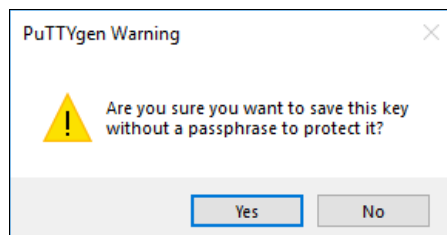

Figure B-3 Confirming the security warning
5. Click **Save private key**. A warning message is displayed (see Figure B-3). Click **Yes** to save the private key without a passphrase.